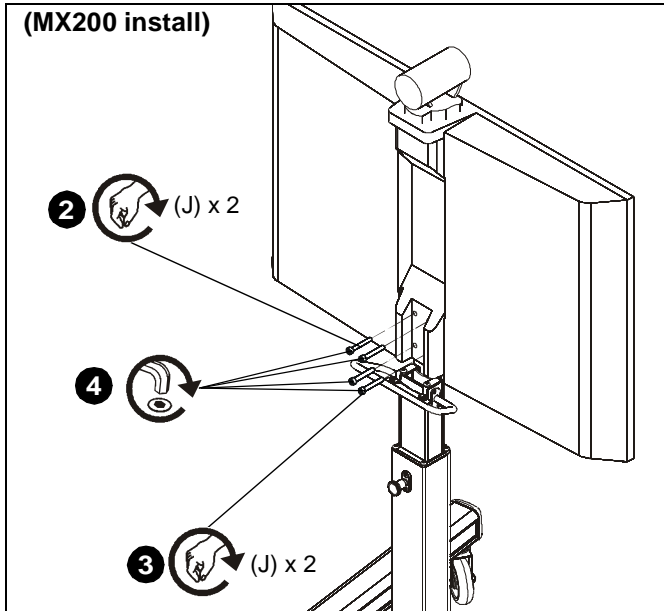

Figure 4
2. Hand tighten two M6x40mm socket head cap screws (J) into top two holes on display and interface plate. (See Figure 4)
3. Hand tighten two M6x40mm socket head cap screws (J) into lower two holes on display and interface plate. (See Figure 4)